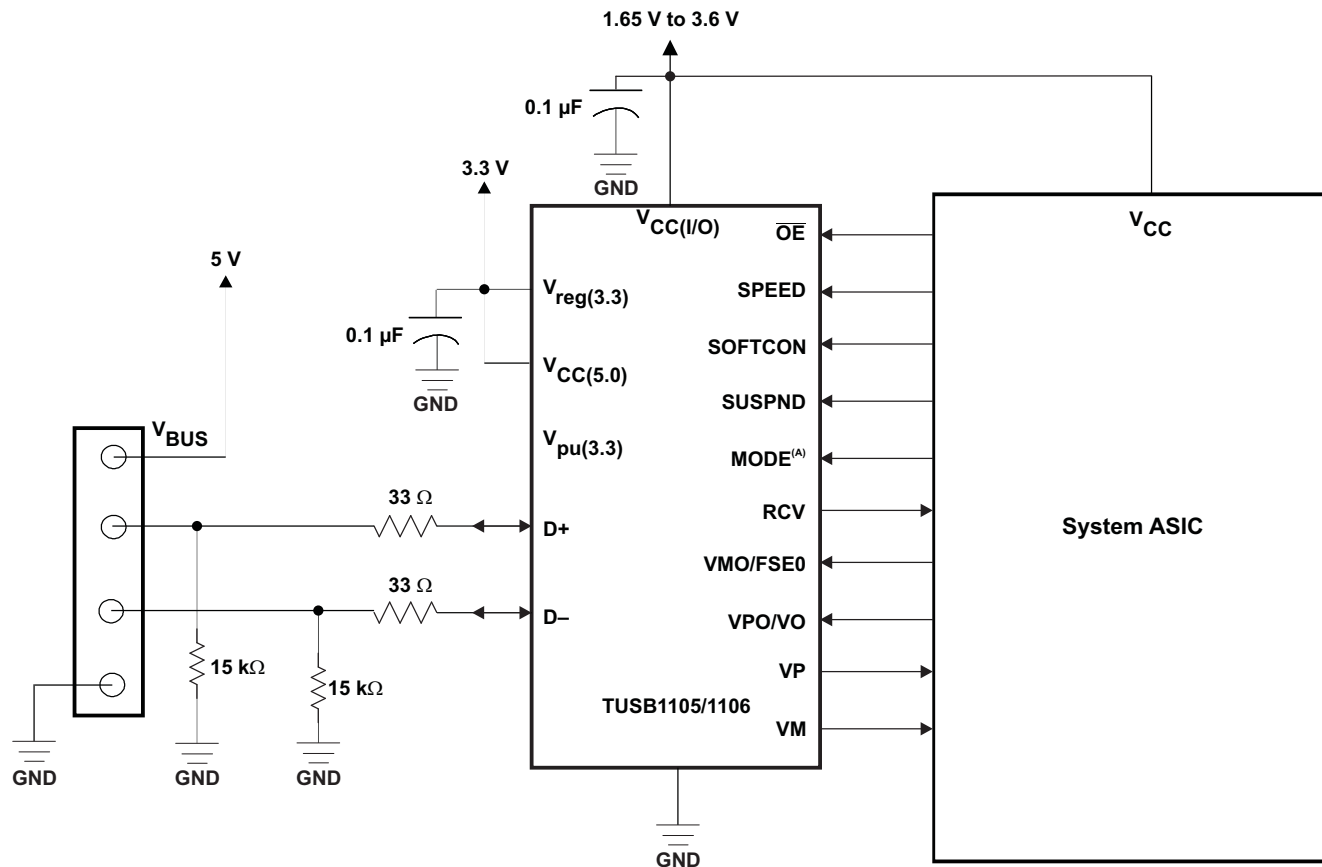

Figure 13. Host-Side (3.3-V Supply Present) Internal Regulator Bypass Mode
(1) Test circuit, see Figure 13
(2) Driver timing in low-speed mode is not specified. Low-speed delay timings are dominated by the slow rise/fall times t_{LR} and t_{LF} .